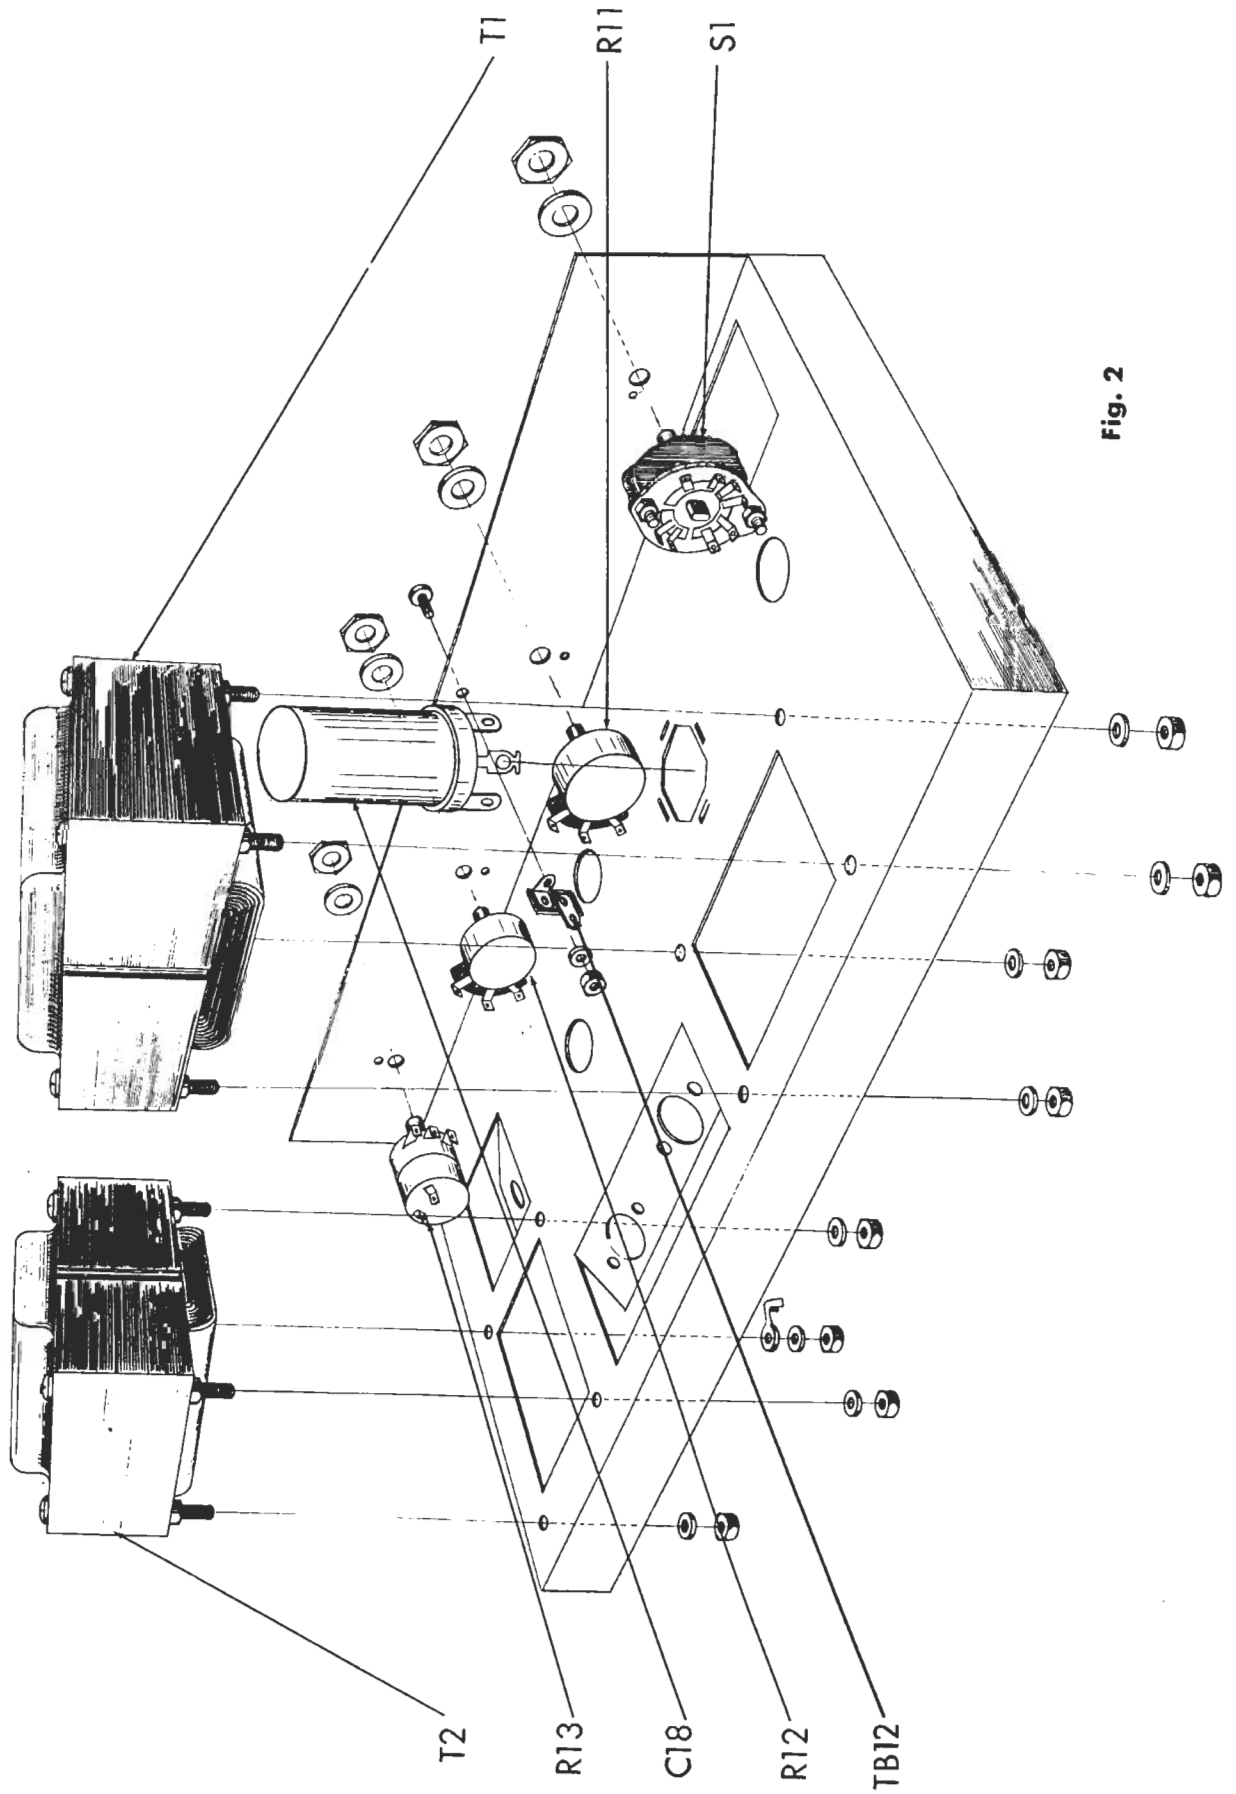

Fig. 2
1. () Fig. 2. Mount the switch, S1, as shown. Note that the switch is in the maximum counter-clockwise position. Use one 3/8" lockwasher and one 3/8" hex nut as shown. Note that tab on switch slides into small hole adjacent to mounting hole.
2. () Fig. 2. Mount the pot, R11 (18038) as shown. Use one 3/8" lockwasher and one 3/8" hex nut. Note that the tab on pot slides into small hole adjacent to mounting hole.
3. () Fig. 2. Similar to the above, mount the pot R12 (18033) and the pot with the switch, R13 and S2 as shown. Note that in each case, the tab on the pot slides into small hole adjacent to mounting hole. Use one 3/8" lockwasher and one 3/8" hex nut in mounting each pot.
4. () Fig. 2. Mount the output transformer, T1 (32005) as shown. Use four #8-32 hex nuts and four #8 lockwashers. Note that the yellow lead and the brown lead face the rear of the chassis toward TB2.
5. () Fig. 2. Mount the power transformer, T2 (30019) as shown. Use four #8-32 hex nuts and four #8 lockwashers. Add a #8 ground lug under one of the lockwashers as shown. Note that the green leads face the center of the chassis and the tube sockets XV4 and XV5.
6. () Fig. 2. Mount the electrolytic can capacitor, C18 as shown. Note the mounting in Fig. 3 as to direction of triangle, semi-circle and square, next to the prongs on the capacitor. Insert the mounting tabs into the slots in the chassis and twist the tabs somewhat less than a quarter turn. DO NOT twist the tabs excessively or they will shear off. Solder one tab to the chassis at its slot.
7. () Fig. 2. Mount a 1 post left terminal strip, TB12, as shown. Use one #6-32 screw, one #6-32 lockwasher and one #6-32 hex nut.